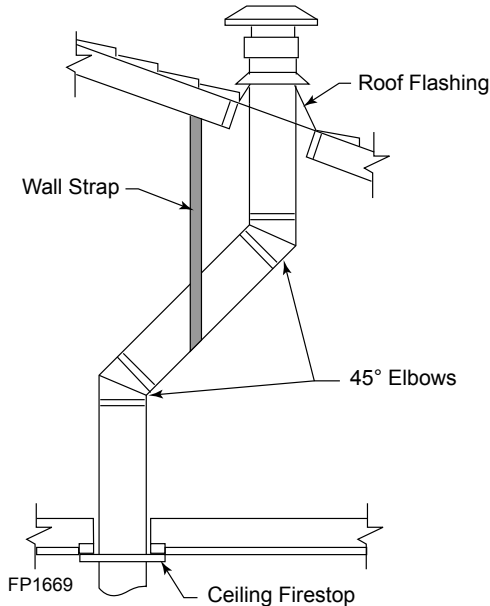
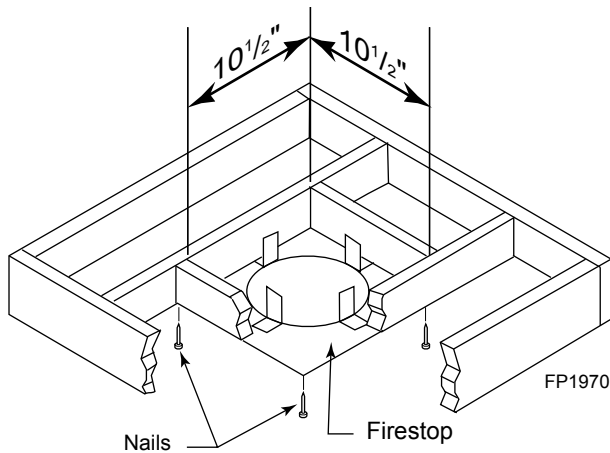

Figure 23 - Offset with Wall Strap and 45° Elbows
Figure 25 -
1. Cut a 10½" (241 mm) square hole in the ceiling using the locating hole as a center point. The opening should be framed to 10½"x10½" (267 x 267 mm) inside dimensions as shown in Figure 25 using framing lumber the same size as the ceiling joist. If the area above the ceiling is an insulated ceiling or a room, nail firestop from the top side. This prevents loose insulation from falling into the required clearance space. Figure 23. Otherwise, install firestop below the framed hole. Figure 25